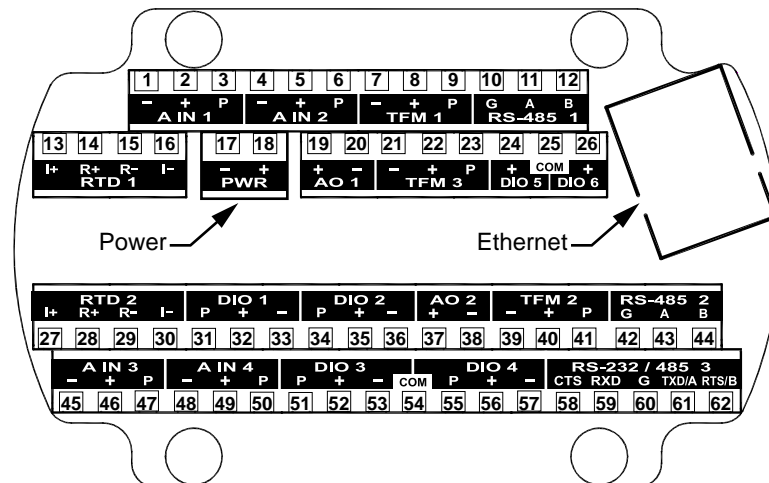

Figure 4.8—Terminal board illustration showing Ethernet port and Power terminal block location
- g. Connect the Ethernet cable to the Ethernet port on the device terminal board (shown in Figure 4.8).
- h. Wire white (+) and black (-) power wires to the device PWR terminal block (shown in Figure 4.8).
- c. Verify that the F1 and F2 fuse housings on the power block are open (Figure 4.8, page 75).